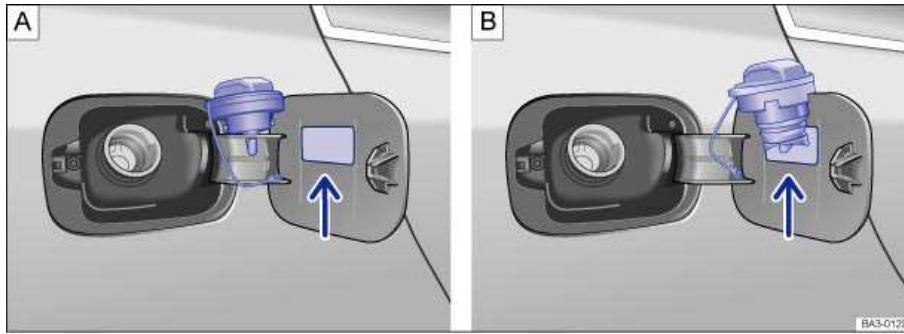

Fig. 177 Fuel cap placed on the open fuel filler flap.
- Unscrew fuel cap counterclockwise and remove. Use the slot on the filler flap hinge to hold the cap while refueling ⇒ fig. 177.
⇒ fig. 177.